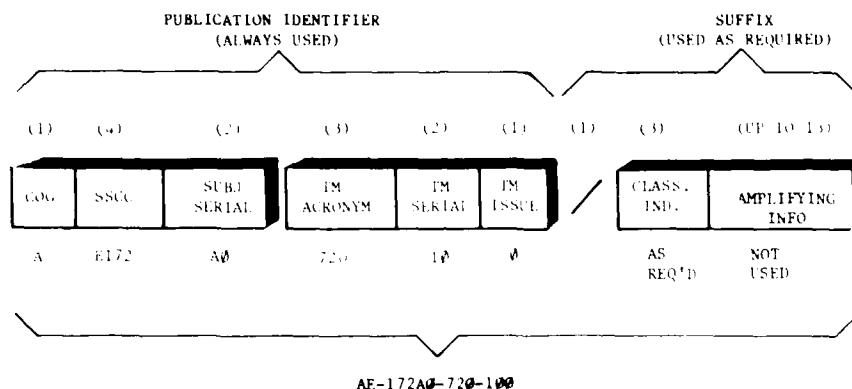

Figure 1-7. TMIN Example (NAVAIR)
4. Insert the derived alphanumeric codes into the proper TMINS format. See Figure 1-7.